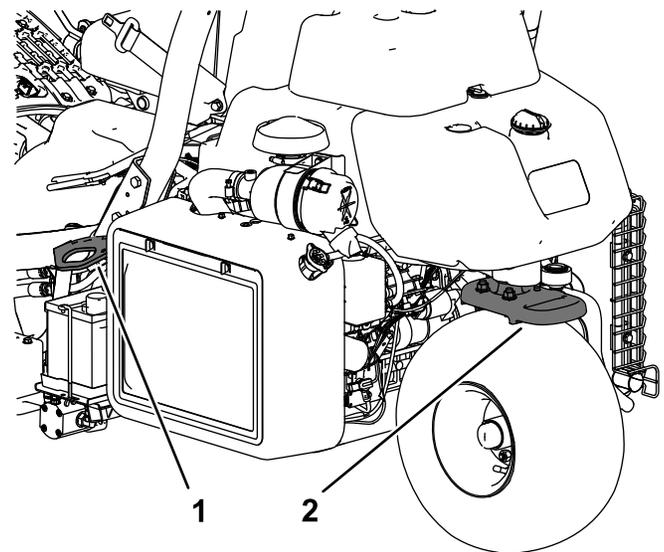

Figure 28
- Tie the machine down securely using straps, chains, cable, or ropes. Both front and rear straps should be directed down and outward from the machine (Figure 28).